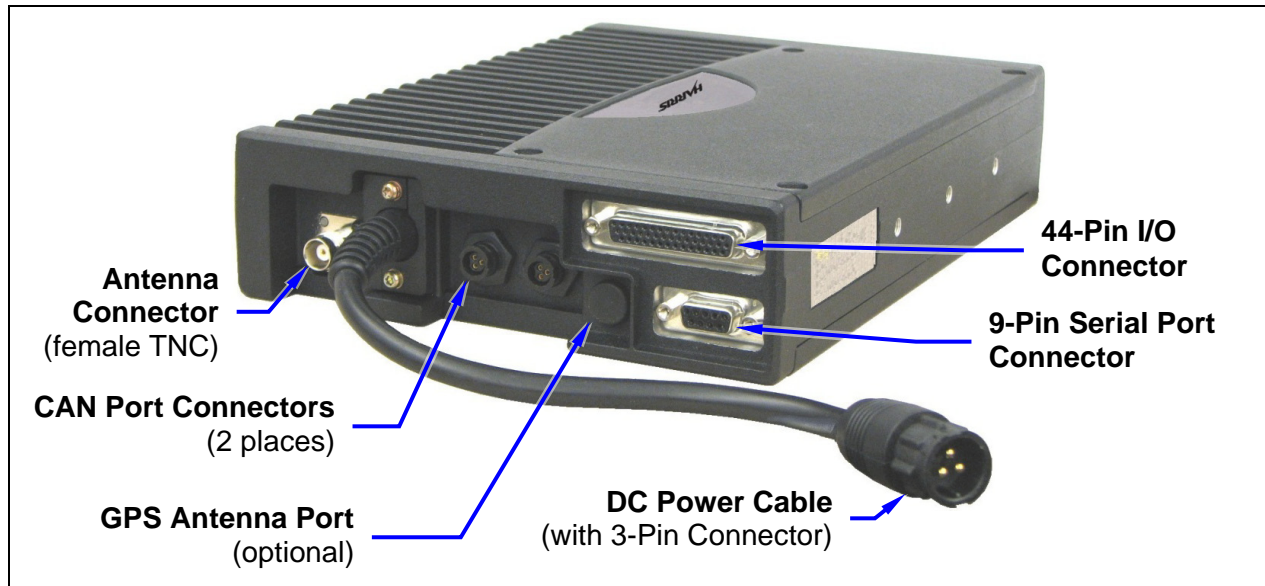
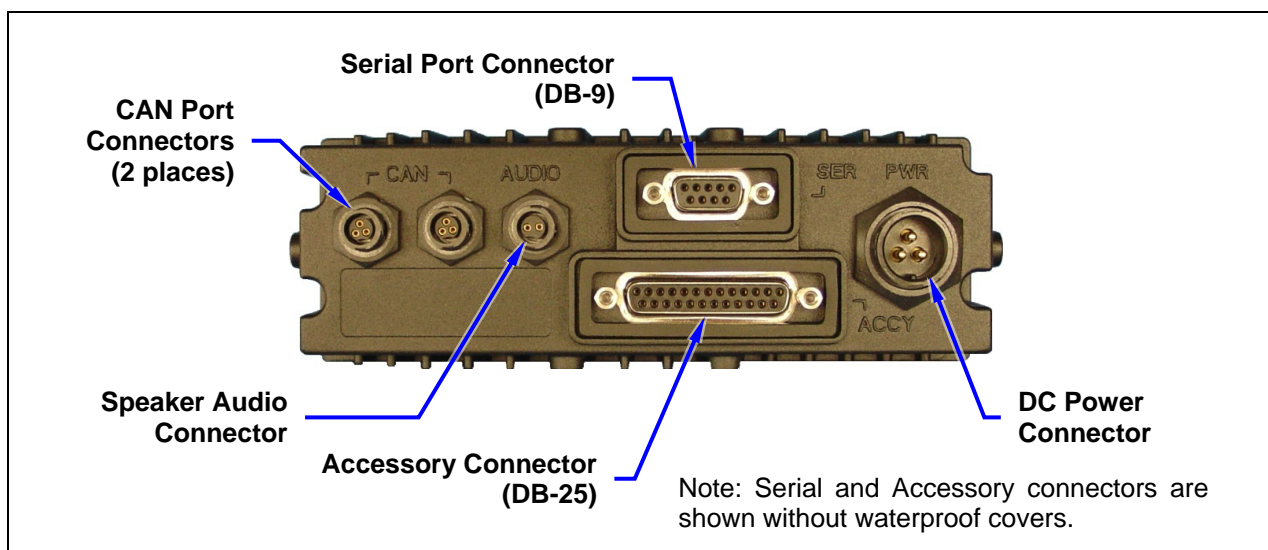

Figure 4-2: UHF M7300 Mobile Radio (Rear View)
Figure 4-5: CH-721 Rear Panel (both control head models)
The remote-mount M7300 radio is designed for remote mounting in a motor vehicle's trunk, or some other preferably unoccupied section in a vehicle, such as a fire truck's equipment shelf. EDACS Conventional P25 (ECP) mode supports dual control heads. For a front-mount radio, this includes the head in the radio. The radio is remotely controlled by a control head(s) connected to it via 3-wire Controller Area Network (CAN) cables. Between the radio and control head(s), the CAN link carries digitized microphone and speaker audio, controlling data such as button presses and radio messages, and user data such as that for a mobile data terminal connected to the serial port of the radio or control head. For proper operation, the CAN link must be terminated appropriately on each end. In multiple control head installations, heads are interconnected to the mobile radio in a series ("daisy-chain") fashion via CAN link cables. CAN port connectors are located on the rear of the radio and control heads, as illustrated in Figure 4-2 and Figure 4-5.
As shown in Figure 4-5, the CH-721 Scan and System model control heads used in remote-mount radio installations have several connectors located on the head's rear panel. These connectors include a DC power connector, two (2) CAN port connectors used for CAN link interconnections, an external speaker connector, a 9-pin serial port connector for connecting optional equipment such as a mobile data terminal, and a 25-pin accessory connector. Both CH-721 models can interface to an optional siren/light control system for broadcasting via a public address (PA) speaker.